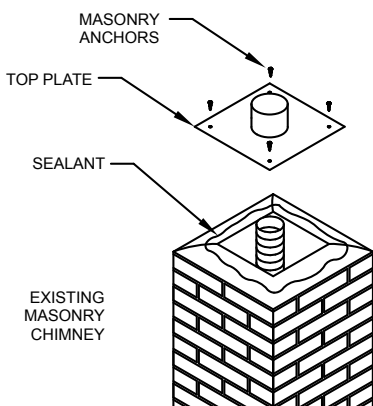

Figure 14
Step 2. Slide the Top Plate over the Flex and seal the Top Plate to the masonry chimney using a bead of non-hardening sealant around the top of the chimney. Refer to **Figure 14**.
Step 3. After sealing the Top Plate to the masonry chimney, attach the DuraFlex AL Cap to the Flex by tightening the fast connect band, as shown in **Figure 14**. Push the Cap down until it rests on the Top Plate's collar.